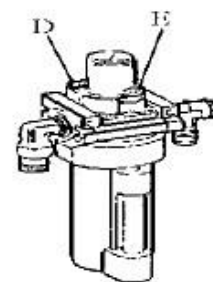

Fig 21
Check oil level in Oil Fog Maker, please be filled with SAE30# oil if need. Unscrew with hex wrench (E). Based on connection of compressed air, first to tread Jaws open and close Pedal or Turntable Rotation Pedal 5-6 times, and then check whether oil in Oil Fog Maker drops down a drip of oil. For continuous operation, tread twice every time, drop down a drip of oil, otherwise adjust the screw (D) that controlled oil enter with minus screwdriver. (Fig 21)